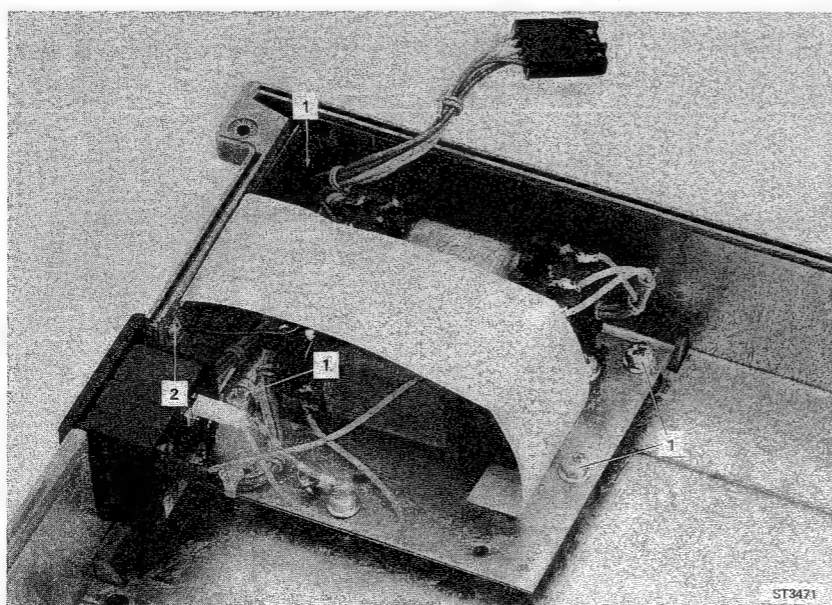

Fig. 45. Removing the thermal fuse
- Remove the four screws which attach the screening plate of the transformer to the bottom cover. (fig. 45 item 1).
- Unsolder the black wire connecting the transformer with the screening. (fig. 45 item 2).